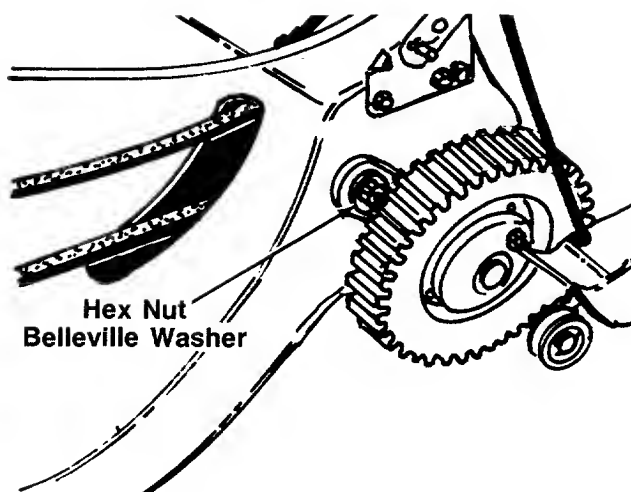

FIGURE 24.
5. Remove hex nut and Belleville washer from height adjustment lever on left side of mower as shown in figure 24.
7. Remove the rear baffle by removing three bolts, lock washers and hex nuts. See figure 24.